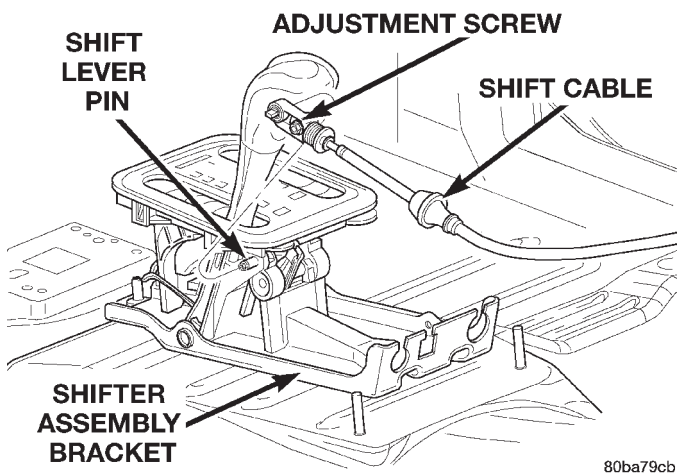

Fig. 25 Transmission Shift Cable at Shifter
- (7) Disconnect cable at shift lever and shifter assembly bracket (Fig. 25).